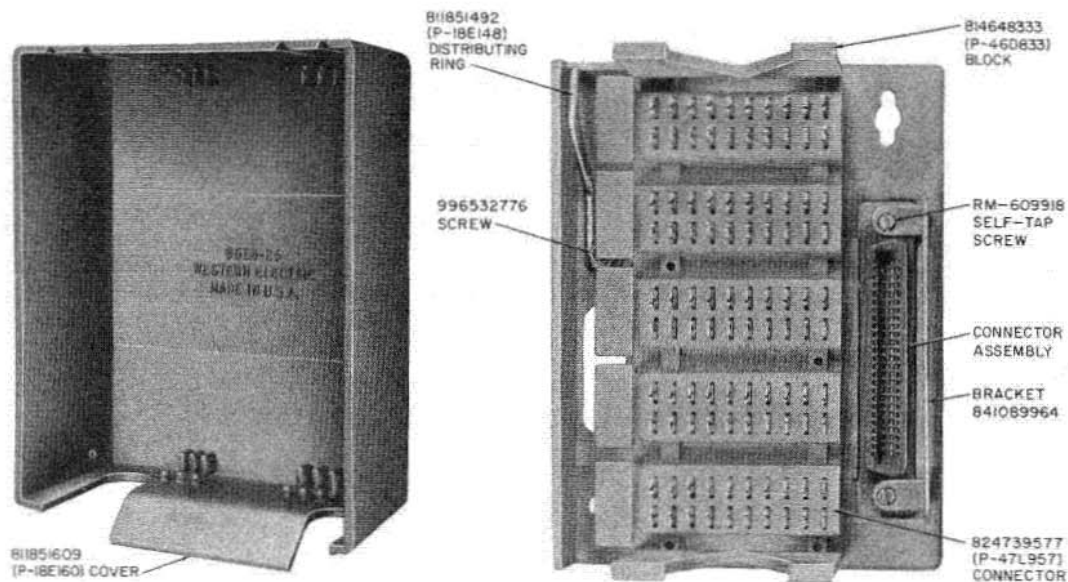

Fig. 1—66E3-25 Connecting Block
2.03 The 66E3-25 connecting block (Fig. 1) is equipped with a molded plastic housing incorporating a snap-on cover and a cable trough in the base. The block should be mounted on a firm flat surface. Provisions are also made for mounting the block to a standard wall outlet box or overfloor duct by using a 152A adapter.
**2.06** A new bracket design has been incorporated on the 66E3-25 and 66E4-25 connecting blocks for attaching both the low and high silhouette plug or connectors. The new bracket 841089964 (Fig. 1), which contains a diagonal slot, replaces the present P-21E608 bracket. The new slot provides improved retention of the connector and plug to eliminate accidental disengagement resulting from external movement of the cord or connector cable.